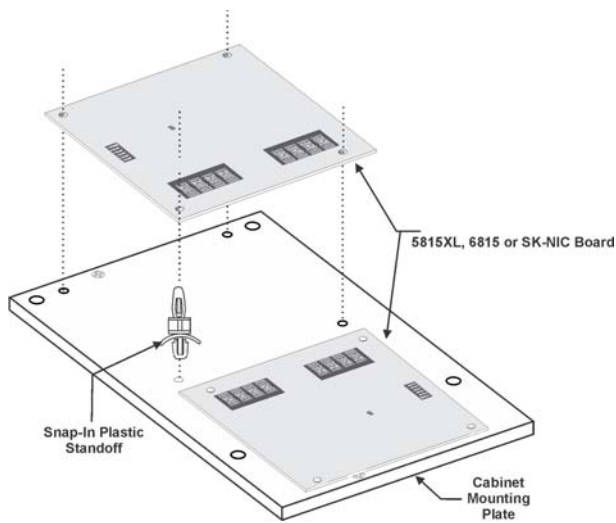

Figure 3: Standoff Installation
6. Insert the eight standoffs included with the cabinet as shown in Figure 3.